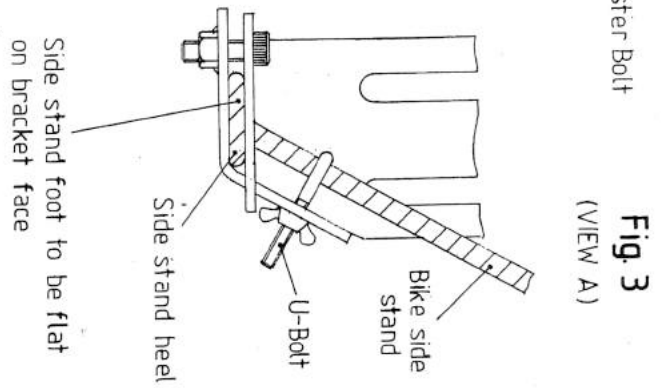

Fig. 3
4. HOLDING THE BIKE UPRIGHT, POSITION THE SIDE-STAND CAPTURE PLATE TO SIT SQUARELY UNDER THE SIDE STAND FOOT Fig 3 THEN FIT THE 'C' CLAMP WITH ITS FINGERS LOCATED IN THE BRACKET APERTURE AND LOCK DOWN WITH THE M8 BOLT PROVIDED (Avoid over tightening).
5. WHENEVER POSSIBLE FIT THE 'U' BOLT AROUND THE STAND LEG FOR ADDED SECURITY. Fig 3.
5. Take the screw-shaft assembly and after greasing the bearing **fig 3** re-fit it to the lift as shown in the diagram, be sure to locate the large rubber buffer **fig 5** before screwing it through the bronze lifting nut in the arm **fig A**.